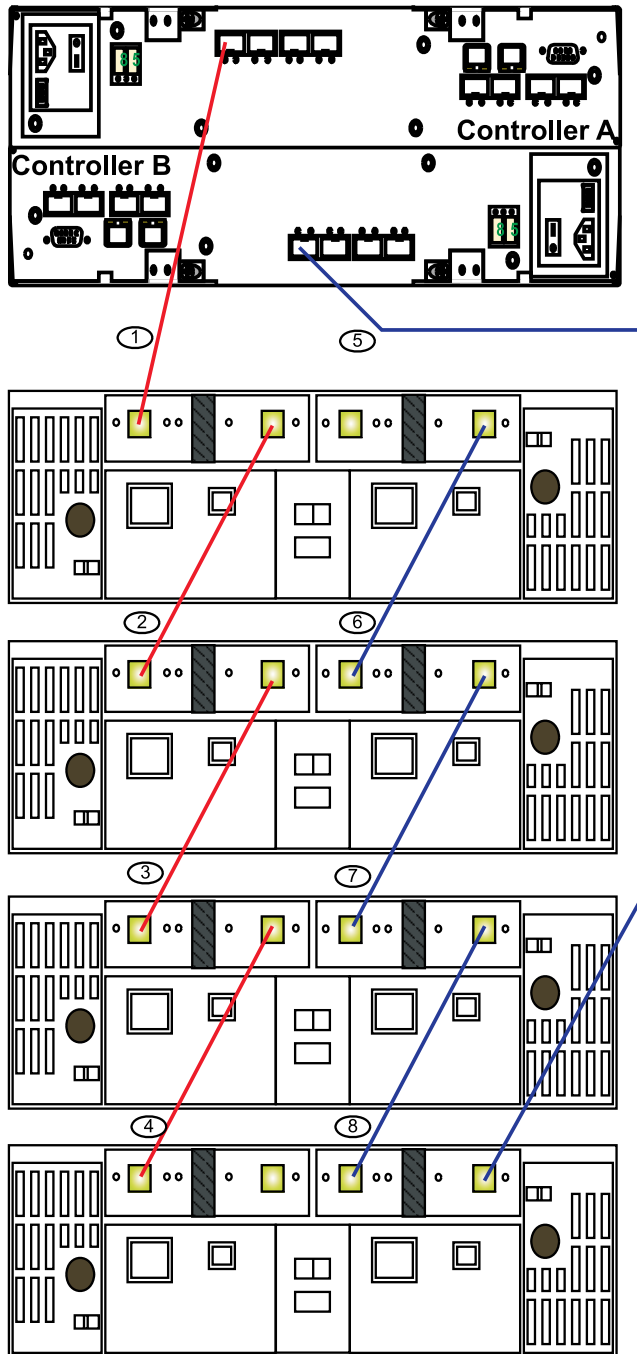

Figure 44. Connecting EXP710 or EXP100 enclosures to DS4800
- a. Starting on the DS4800 controller, connect drive port 4 (drive channel 1) of controller A to the In port on the left ESM board of the first storage expansion enclosure in the group. (See callout 1 in Figure 44 on page 64.)
- b. From the first storage expansion enclosure that will be cabled together behind a drive port of a drive channel, connect the Out port on the left ESM board to the In port on the left ESM board of the second (next) enclosure. (See callout 2 in Figure 44 on page 64.)
- c. From the first storage expansion enclosure, connect the Out port on the right ESM board to the In port on the right ESM board of the second (next) enclosure. (See callout 6 in Figure 44 on page 64.)
- d. If you are cabling more storage expansion enclosures to this group, repeat the In port to Out port connections until you reach the last storage expansion enclosure. (See callouts 3 and 4 for the left ESM connections and callouts 7 and 8 for the right ESM connections in Figure 44 on page 64.)
- e. On the last storage expansion enclosure in the group, connect the Out port on the right ESM board to drive port 1 (drive channel 3) of controller B of the DS4800. (See callout 5 in Figure 44.)